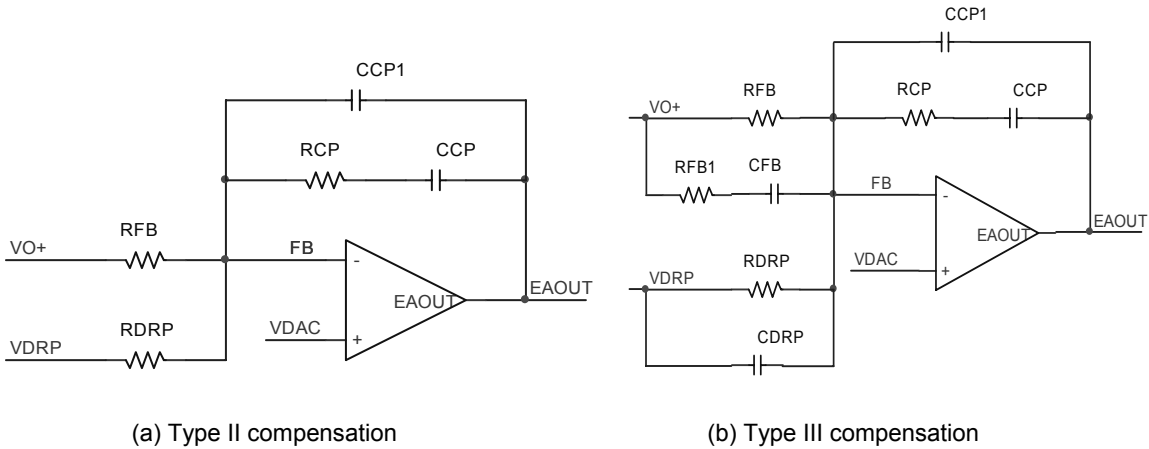

Figure 17. Voltage loop compensation network
Resistors R_{FB} and R_{DRP} are chosen according to Equations (16) and (17), and the selection of compensation types depends on the output capacitors used in the converter. For the applications using Electrolytic, Polymer or AL-Polymer capacitors and running at lower frequency, type II compensation shown in Figure 17(a) is usually enough. While for the applications using only ceramic capacitors and running at higher frequency, type III compensation shown in Figure 17(b) is preferred.
For applications where AVP is not required, the compensation is the same as for the regular voltage mode control. For converter using Polymer, AL-Polymer, and ceramic capacitors, which have much higher ESR zero frequency, type III compensation is required as shown in Figure 17(b) with R_{DRP} and $CDRP$ removed.